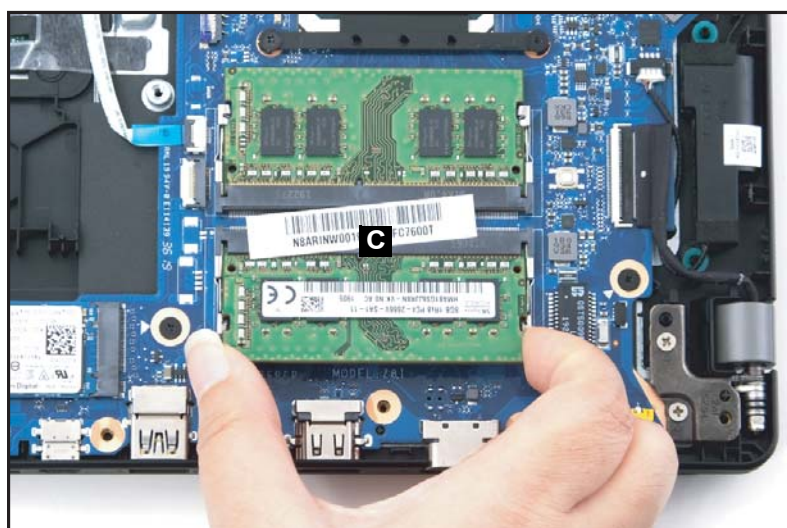

Figure 1-13. DIMM Module Removal
3. Remove the DIMM module from the mainboard connector (C) (Figure 1-13).